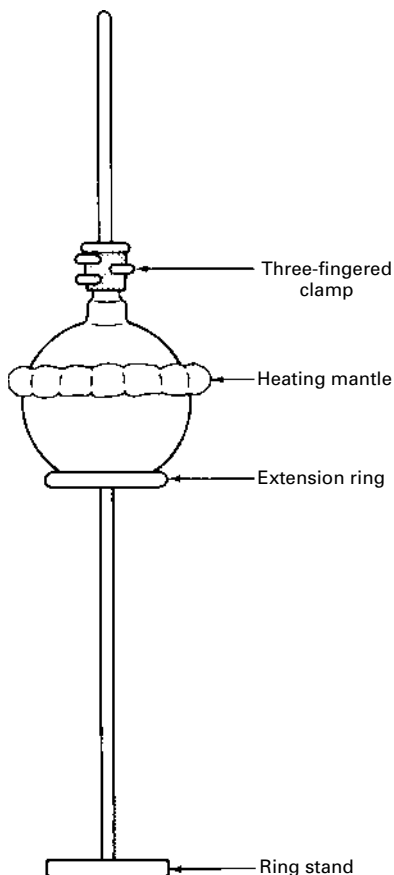

FIGURE 18.4 Flask and heating mantle out on a ring stand.
2. Clamp the flask (around the neck) a few inches up the ring stand (Fig. 18.4). We *are* using heating mantles, and you'll need the room underneath to drop the